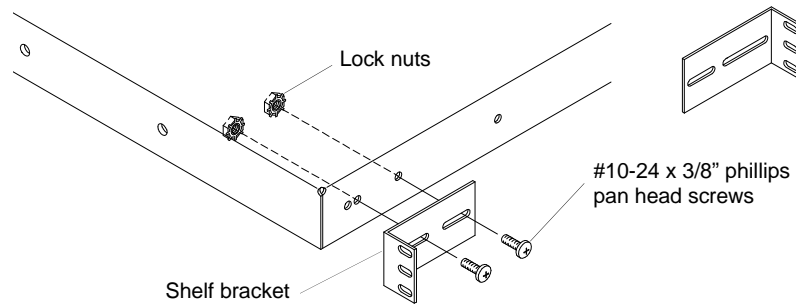

Figure 10
1. The front and rear **Shelf Brackets** are assembled in reverse for shipping purposes. Remove and re-assemble them as shown in figure 10.